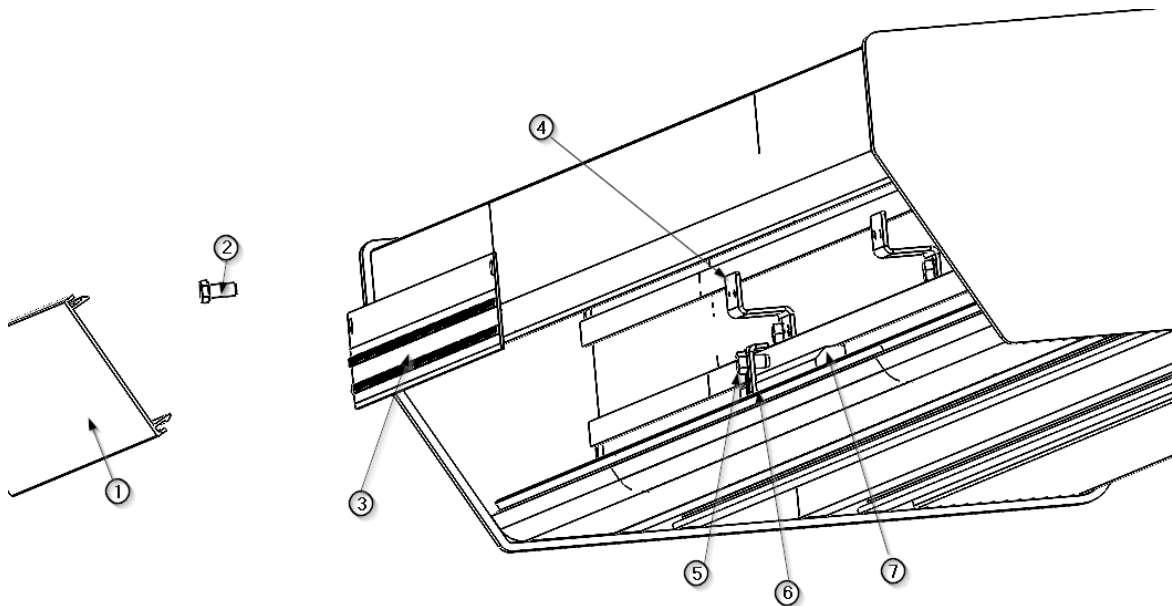

Fig.6 Substitution of direct light
- To increase the braking force on the rotation axis, turn the rotation brake lever clockwise as shown in figure 6.
- To reduce the braking force on the rotating shaft, turn the rotation brake lever counterclockwise, in the opposite direction to that shown in figure 6.
- To increase the braking force on the drive shaft, turn the rotation brake lever clockwise as shown in figure 6.
- To reduce the braking force on the drive shaft, turn the rotation brake lever counterclockwise, in the opposite direction to that shown in figure 6.